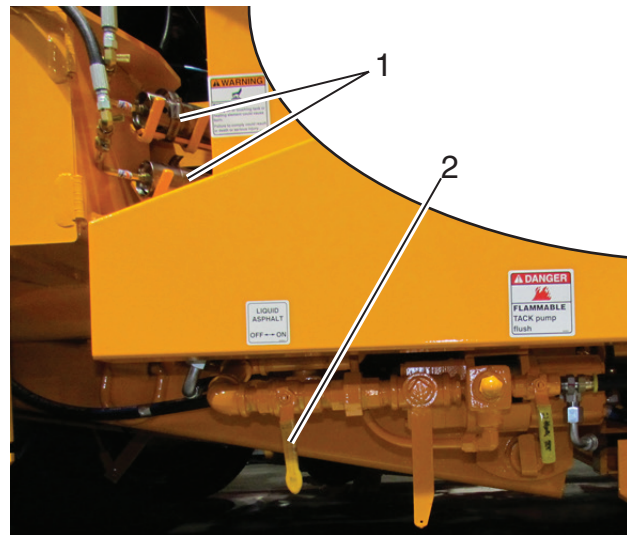

Figure 4-3. Tack Exit Valve
NOTE: The carbide bit should be replaced when badly worn. Make sure the replacement is made before the carbide bit housing comes in contact with the surface. Use a hammer and the tool provided to remove the bits. See **Figure 4-3**.
3. Open tack exit valve. See **Figure 4-3**.